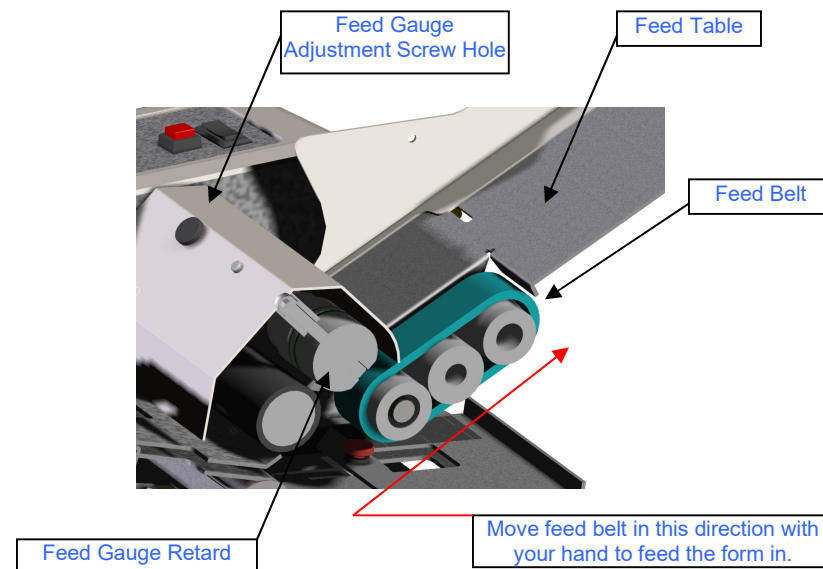

Figure 10: Feed Gauge Cross Section View
1. Turn the **Feed Gauge Adjustment Screw** [see Figure 10] ¼ turn counter-clockwise.
To properly set the **Feed Gauge System** [see Figure 10]: